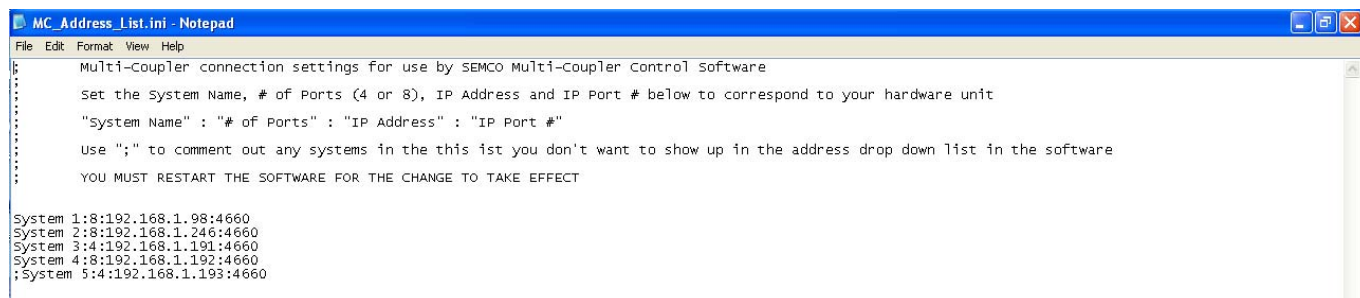

Figure 3-5
Step 6 – Launch the **SEMCO MCCS** program by clicking on the icon. The window shown in Figure 3-5 will pop up. Follow the instructions as shown in this window and type in the required information as shown in Figure 3-5 for each device connected to the network. As an example: